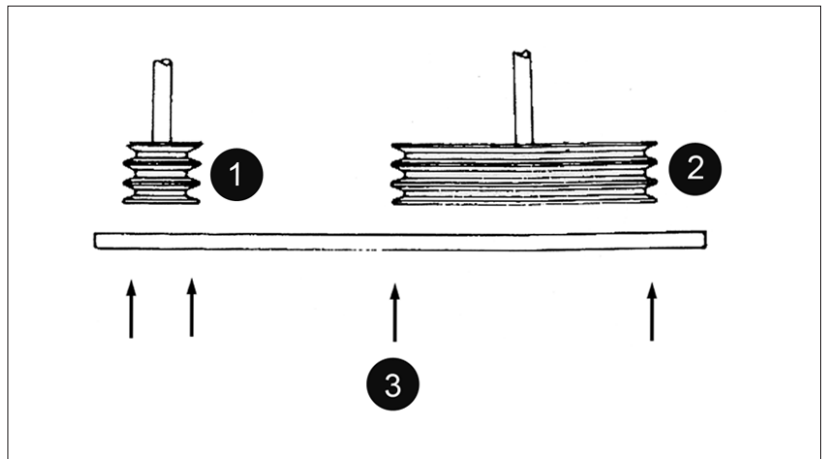

Figure 5. Drive Alignment
- Place a straight edge across the driver and the driven sheaves as shown in Figure 5.
- The straight edge should contact all four points as shown in Figure 5 indicating proper drive alignment.